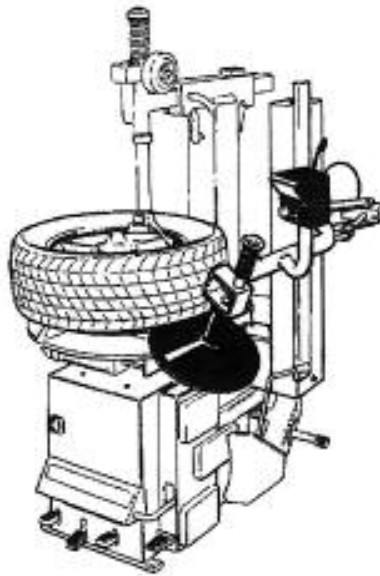

Figure 11
2. Sometimes during the demounting, the lower bead may reseal itself. By using the bead roller wheel as shown in Figure 11, it will not be necessary to remove the wheel in order to repeat the bead breaking operation. To raise the lower bead, manually position the arm so that the bead roller wheel is at the edge of the wheel. While rotating the turntable, raise the bead roller wheel by pushing up on the air toggle lever on the control panel.